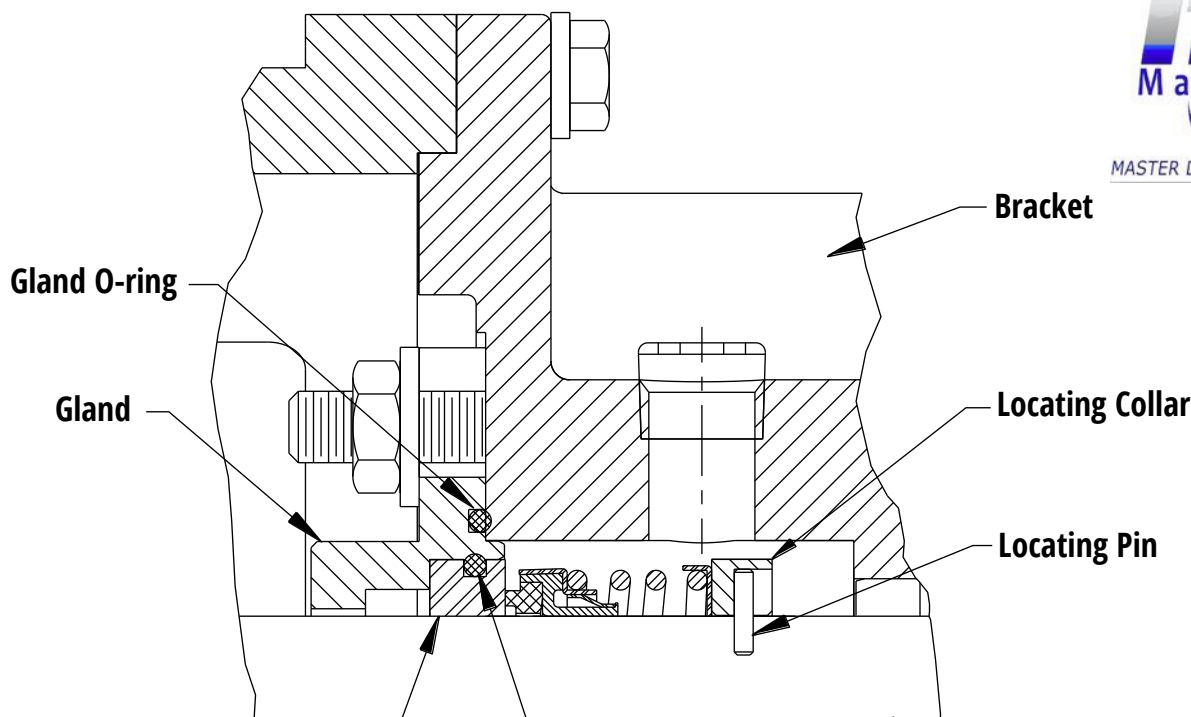

Figure 7
- Install the locating collar (see Figure 7)